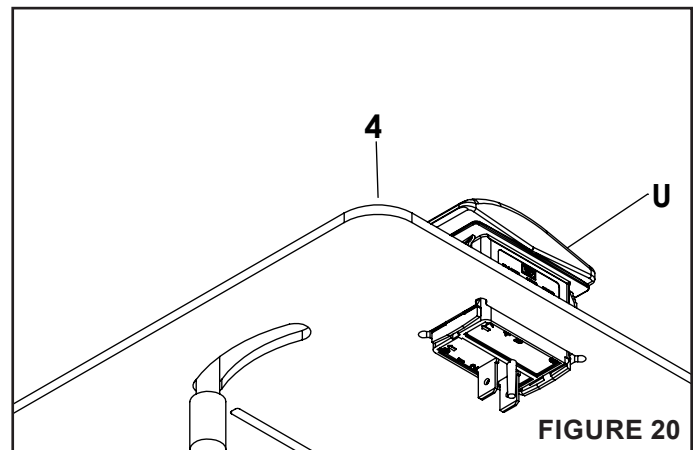

FIGURE 20
STEP 20: (SEE FIGURE 20)
- Install the switch (U) into the top of the control bracket assembly (4). Making sure the terminals are positioned as shown.